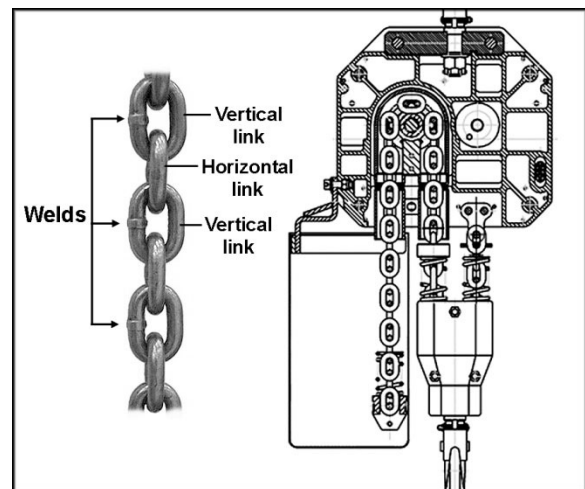

Figure 13
6. Check that chain is not twisted at bottom hook. All welds should face same direction (see Figure 13). For hoists with two or more falls of chain, make sure bottom hook is not capsized. This may cause the chain to twist.
away from load sheave (see Figure 13 and its accompanying text).
Vertical and horizontal are determined by the relationship to the load chain sheave. Vertical links will be guided by the center slit in the sheave. Horizontal links will engage the oval pockets on the sheave. See Figure 13.